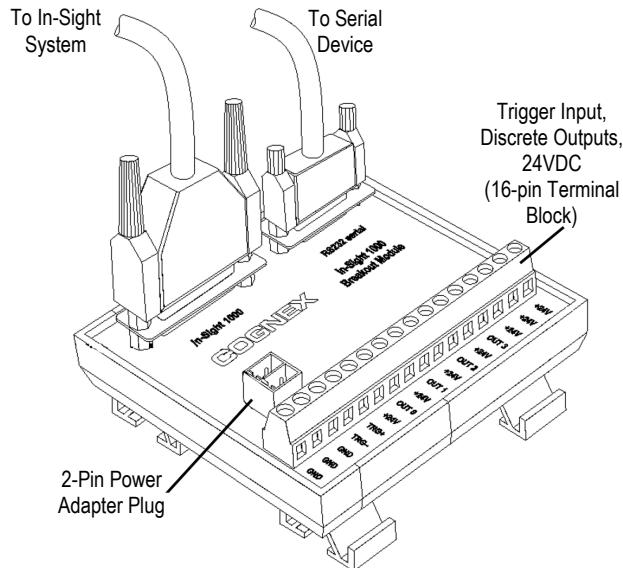

Figure 2-5: Breakout Module Connections
6. Plug the wire leads from a 24VDC supply for the +24V power and ground into the 2-pin terminal plug on the Breakout Module. Alternatively, remove the terminal plug and insert the 2-pin terminal plug attached to the In-Sight power adapter into the keyed power adapter port on the Breakout Module (Figure 2-5).